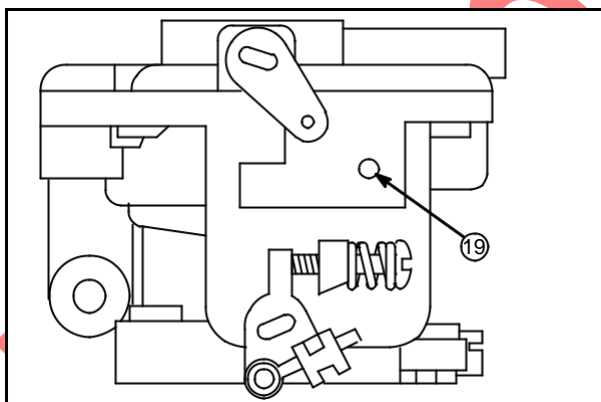

Fig. 91
A color code on the side of the carburetor (19) is used to identify the carburetor by engine model and fuel delivery system, **Fig. 91**.